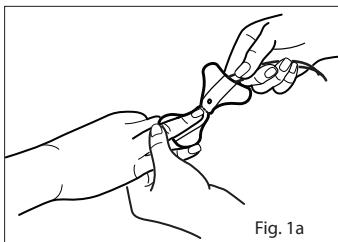

Fig. 1a
- Refer to Fig. 1a. Orient the sensor so that the detector can be placed first. Place the tip of the finger on the dashed line with the fleshy part of the finger covering the finger outline and detector window.